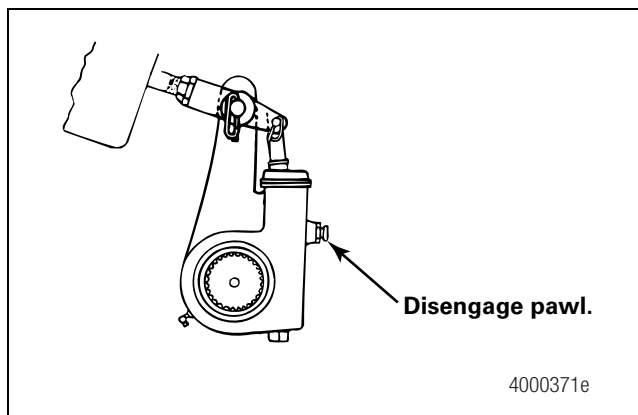

Figure 12
2. Use a wrench to turn the adjusting nut COUNTERCLOCKWISE until the brake shoes contact the drum. Figure 12. Then back off the adjusting nut in the opposite direction 1/2 turn for drum brakes or 3/4 turn for disc brakes.